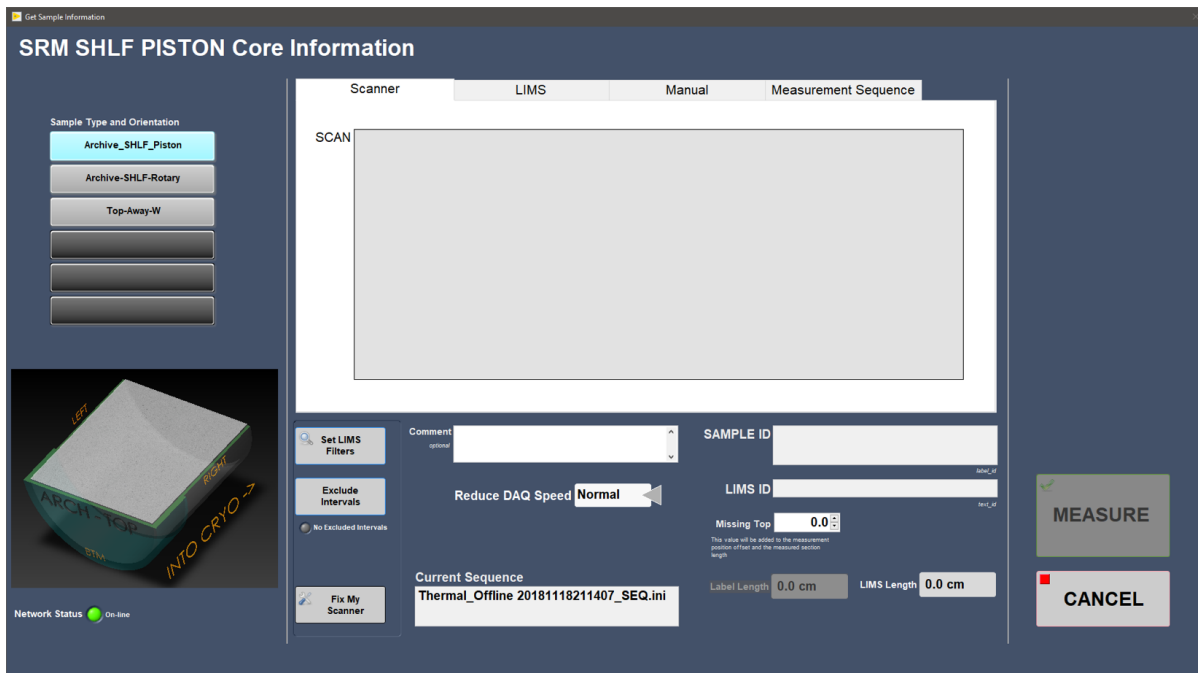

Figure 21- Sample Information Window: Section Half Scanner Sample Entry
- 1) Select **START** on the IMS panel (Figure 2) to open the sample information window (Figure 21).
- **Scanner mode:** Place cursor in the scan box; scan the section half label from the end cap (**Figure 21**).
- 1) Click **START** on the IMS Control Window (**Figure 2**) to open the sample information window (**Figure 21**).